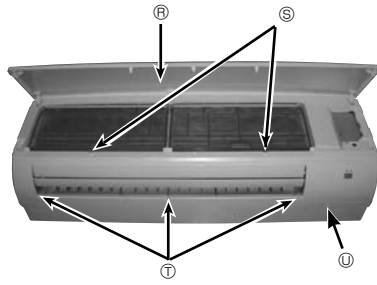

Fig. 6-2
1. Press and unlock the knobs on both sides of the front grille and lift the front grille until it is level. Pull the hinges forward to remove the front grille. (Fig. 6-2)
2. Remove 3 screw caps of the panel. Remove 5 screws. (Fig. 6-2)
7. Remove the screw of the corner box. (Fig. 6-2)